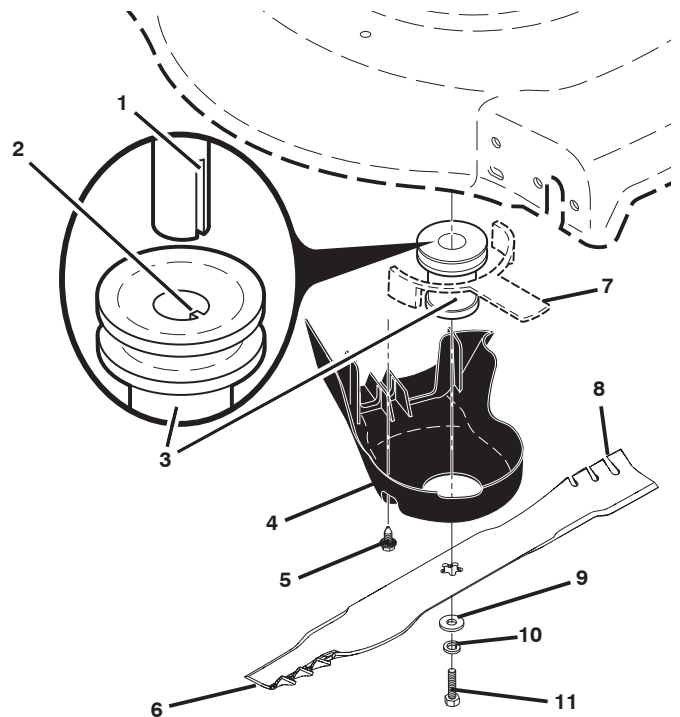

Figure 19
4. Remove blade bolt by turning counter-clockwise (Figure 19).
1. Position the blade adapter on the engine crankshaft. Be sure key in adapter and crankshaft keyway are aligned; and that the drive belt is inside the tabs of the belt retainer (Figure 19).